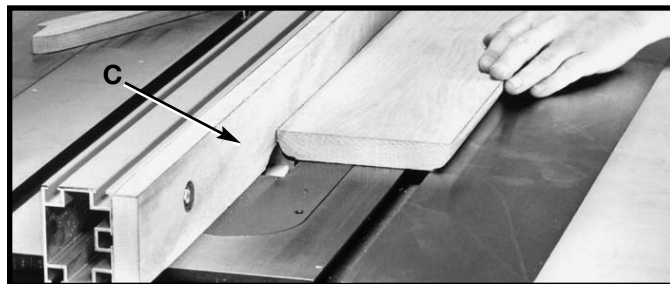

Fig. 70
2. When using the moulding cutterhead, add wood-facing (C) Fig. 70 to the face of the rip fence. The wood-facing is attached to the fence with wood screws through holes which must be drilled in the fence. Stock that is 3/4 inch thick is suitable for most work, although an occasional job may require 1 inch facing.
3. Position the wood-facing over the cutterhead with the cutterhead below the surface of the table. Turn the saw on and raise the cutterhead. The cutterhead will cut its own groove in the wood-facing. Fig. 70 shows a typical moulding operation.